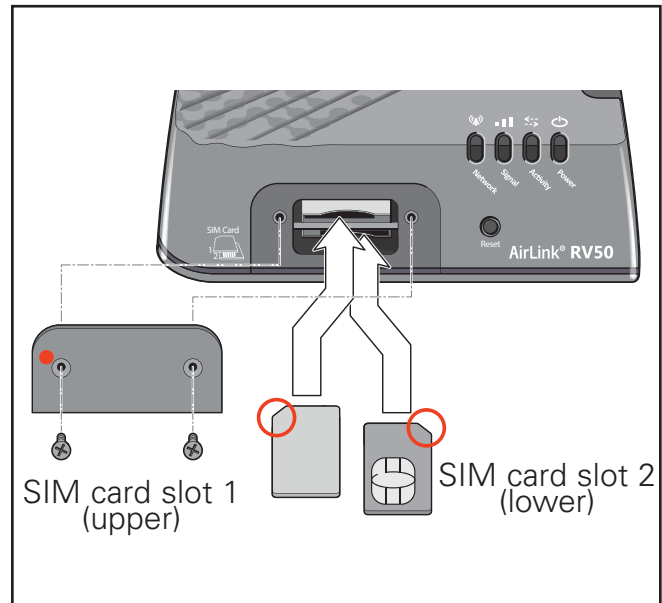

Figure 2.
3. Use a #1 Phillips screwdriver to remove the SIM card cover. (Figure 2.)